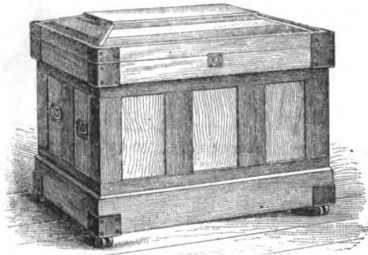

Fig. 1.—Perspective View.
*Building*, and wish to furnish "J. E. H." through the paper a plan of the tool chest I use. The body of the chest is 34 inches long, 22 inches wide and 23 inches high, inside measurement. An idea of the appearance of the chest may be gathered from Fig. 1 of the drawings. The stiling is cherry, the panels black ash with a band at the top and bottom, and also a band of ash around the cover. There are three panels on the front and back and two on the ends. The ends are fastened to the panels with tire bolts fitted with washers on the inside. The stiles are  $1\frac{1}{4}$  inches thick and the